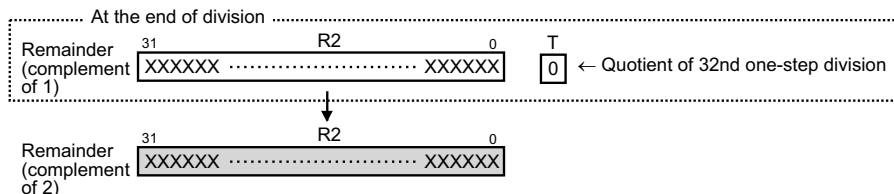

Figure 4 Remainder
- (c) - (i) As shown in figure 4, the way of determining the remainder differs depending on the dividend sign and the value of the T bit (quotient of 32nd one-step division).